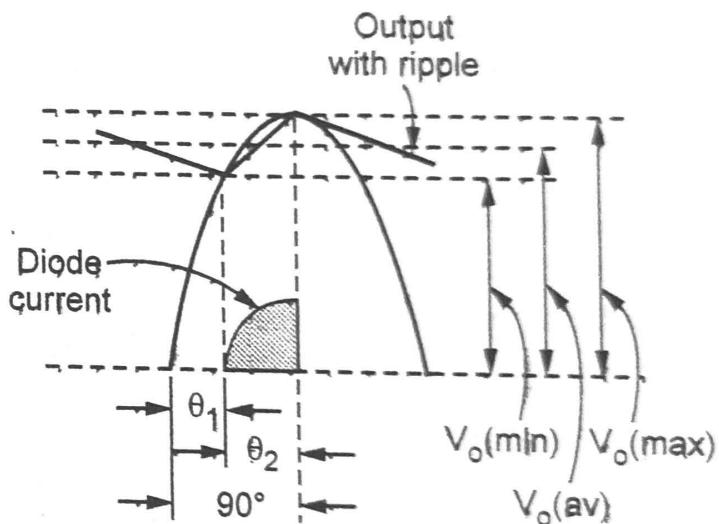

Fig. 1.2
- Consider the path of the output voltage with ripple of a rectifier with capacitor filter as shown in the Fig. 1.2.
From Fig. 1.2,